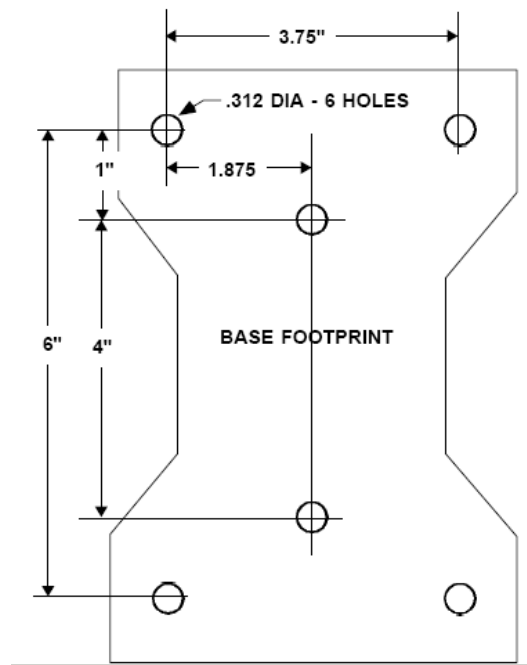

Figure 6
Step 4. Fasten the WeatherMount or WeatherMount2 base to the building, home or structure (Figure 6). Use the enclosed lag screws to drill into the structure.